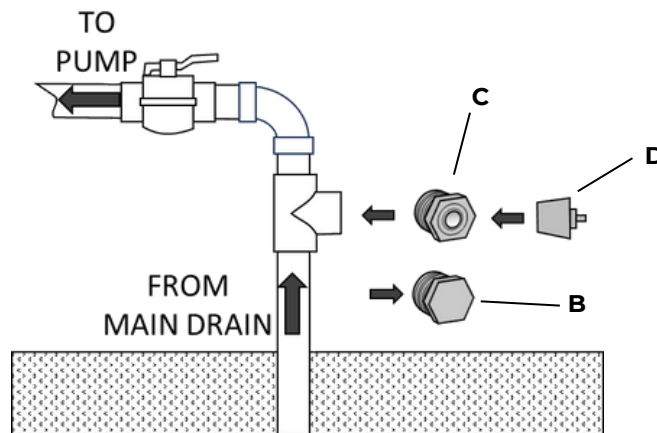

Figure 17
- 4 Remove the Threaded Plug (B) and install a 1.5-inch Slip Reducer Bushing (C). (See Figure 17).
- 5 Install a Plug with an Air Valve (D) into the Reducer Bushing (C). (See Figure 17).